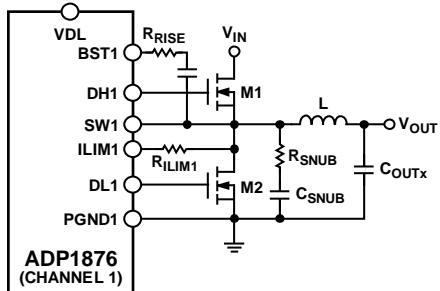

Figure 32. Application Circuit with a Snubber
In any high speed step-down regulator, high frequency noise (generally in the range of 50 MHz to 100 MHz) and voltage overshoot are always present at the gate, the switch node (SW), and the drains of the external MOSFETs. The high frequency noise and overshoot are caused by the parasitic capacitance,  $C_{\text{GD}}$ , of the external MOSFET as well as the parasitic inductance of the gate trace and the packages of the MOSFETs. When the high current is switched, electromagnetic interference (EMI) is generated, which can affect the operation of the surrounding circuits. To reduce voltage ringing and noise, it is recommended to add an RC snubber between SWx and PGNDx for high current applications, as illustrated in Figure 32.
A resistor, shown as  $R_{RISE}$  in Figure 32 at the BST1 pin, helps to reduce overshoot and is generally between  $2\ \Omega$  and  $4\ \Omega$ . Adding a resistor in series, typically between  $2\ \Omega$  and  $4\ \Omega$ , with the gate driver also helps to reduce overshoot. If a gate resistor is added,  $R_{RISE}$  is not needed.